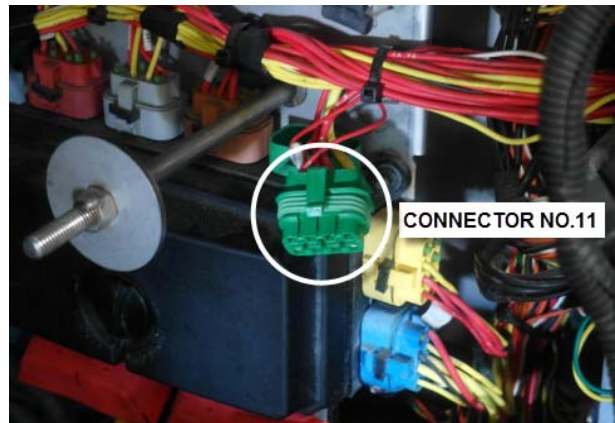

FIGURE 11
3. Using an extractor tool or a small flat blade screwdriver, remove wire 24VDALT from cavity H of connector no.11 (FIGURE 11 to FIGURE 14).